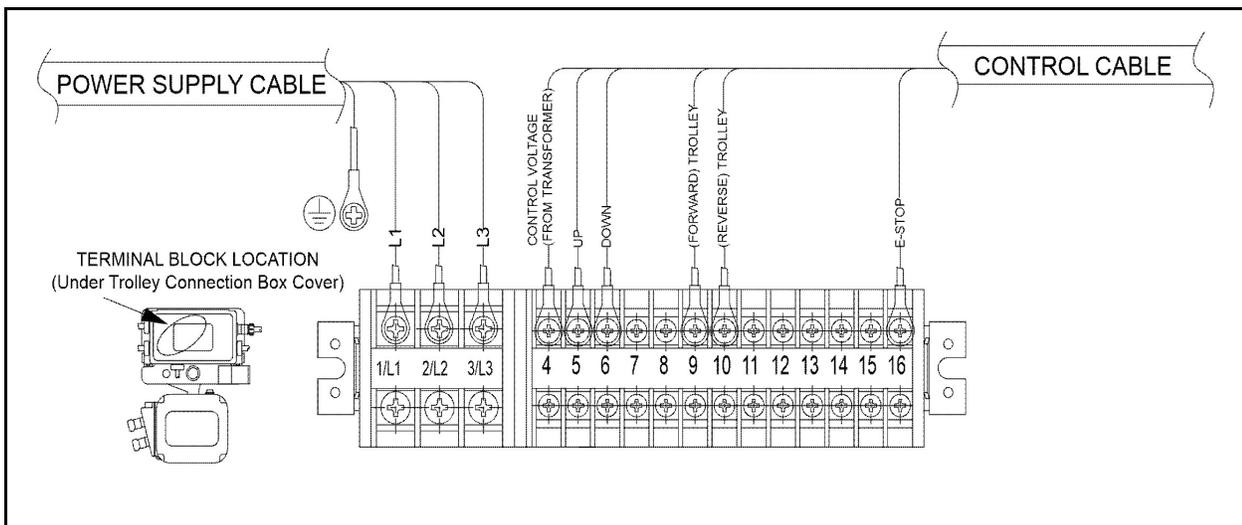

Figure 3-24 Trolley Hoist Terminal Block – Power Cable and Pendant/Control Cable Connections
- Reference wiring diagram within Connection Box as well as **Figure 3-24**.
- Reference wiring diagram within Connection Box as well as **Figure 3-24**